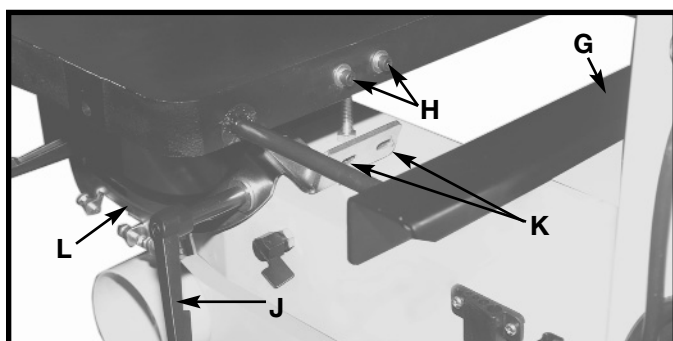

Fig. 8
5. Pull out on the table extension (G) Fig. 8.
6. Remove the two screws, flat washers, and lockwashers (H) Fig. 8, from the table using the 5mm hex wrench.
8. Loosen the table lock knob (J) Fig. 8.
9. Align the two holes (K) Fig. 8, on the table trunnion (L), with the two holes (H) on the table.